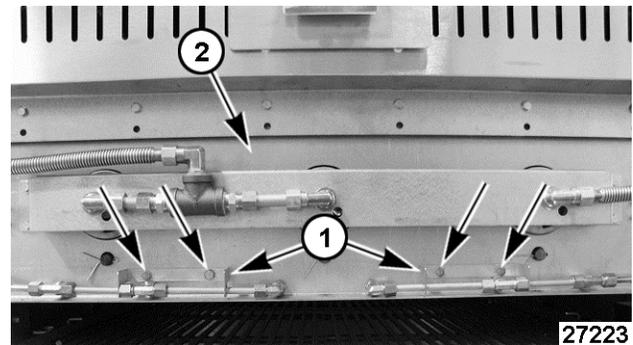

Fig. 13
- Remove screws securing pilot tube mounting brackets [1] Fig. 13 to burner support [2] Fig. 13. Position pilot tube assemblies out of the way to the sides.